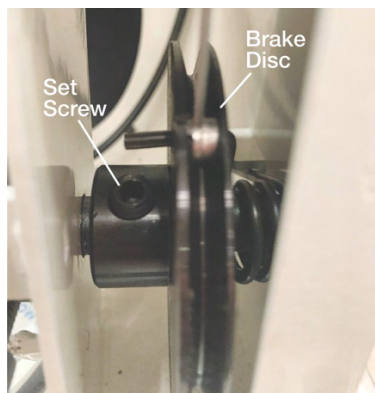

Figure 5-30
1. Locate the set screw on the brake disc, as shown in Figure 5-30.